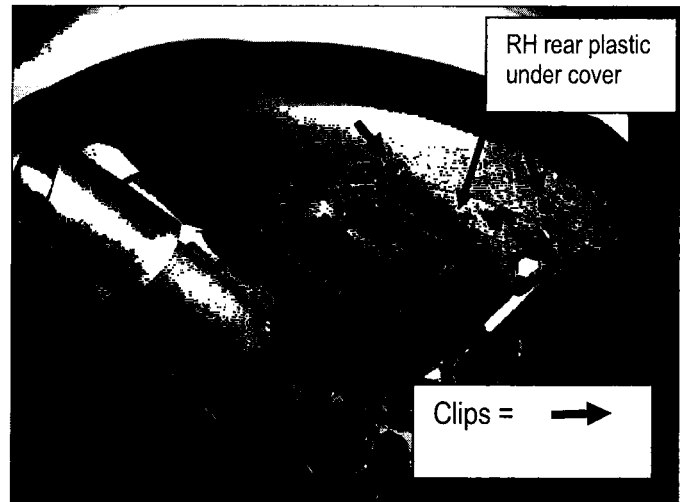

Figure 41
7. On the passenger (RH) side: release clips and remove the rear plastic under cover (see Figure 41).